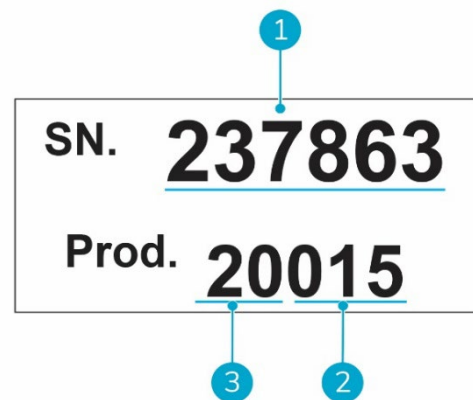

Figure 3
- Production day (Error! Reference source not found.Figure 3, pos. 2).